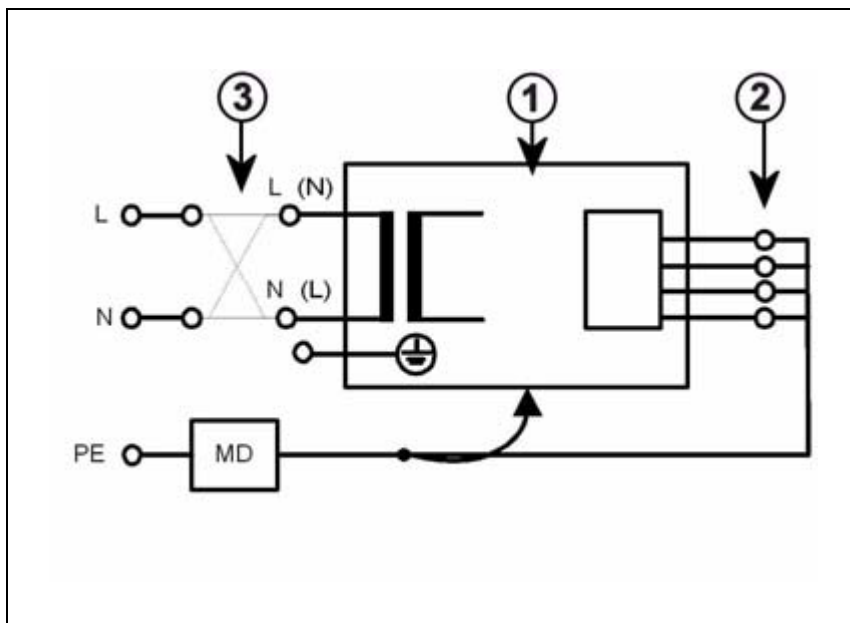

Fig. 3: Measuring circuit for direct measurement of the system leakage current in compliance with DIN VDE 0751-1/2001-10, Fig. C5 for protection class I.
If the direct measurement of the system leakage current is used (measurement setup according to (Fig. 3 / p. 16)), the system must be insulated during the measurement and must not be touched.
- ⇒ **No housing parts of the system may be touched during direct measurement of the system leakage current (measurement setup according to (Fig. 3 / p. 16))**